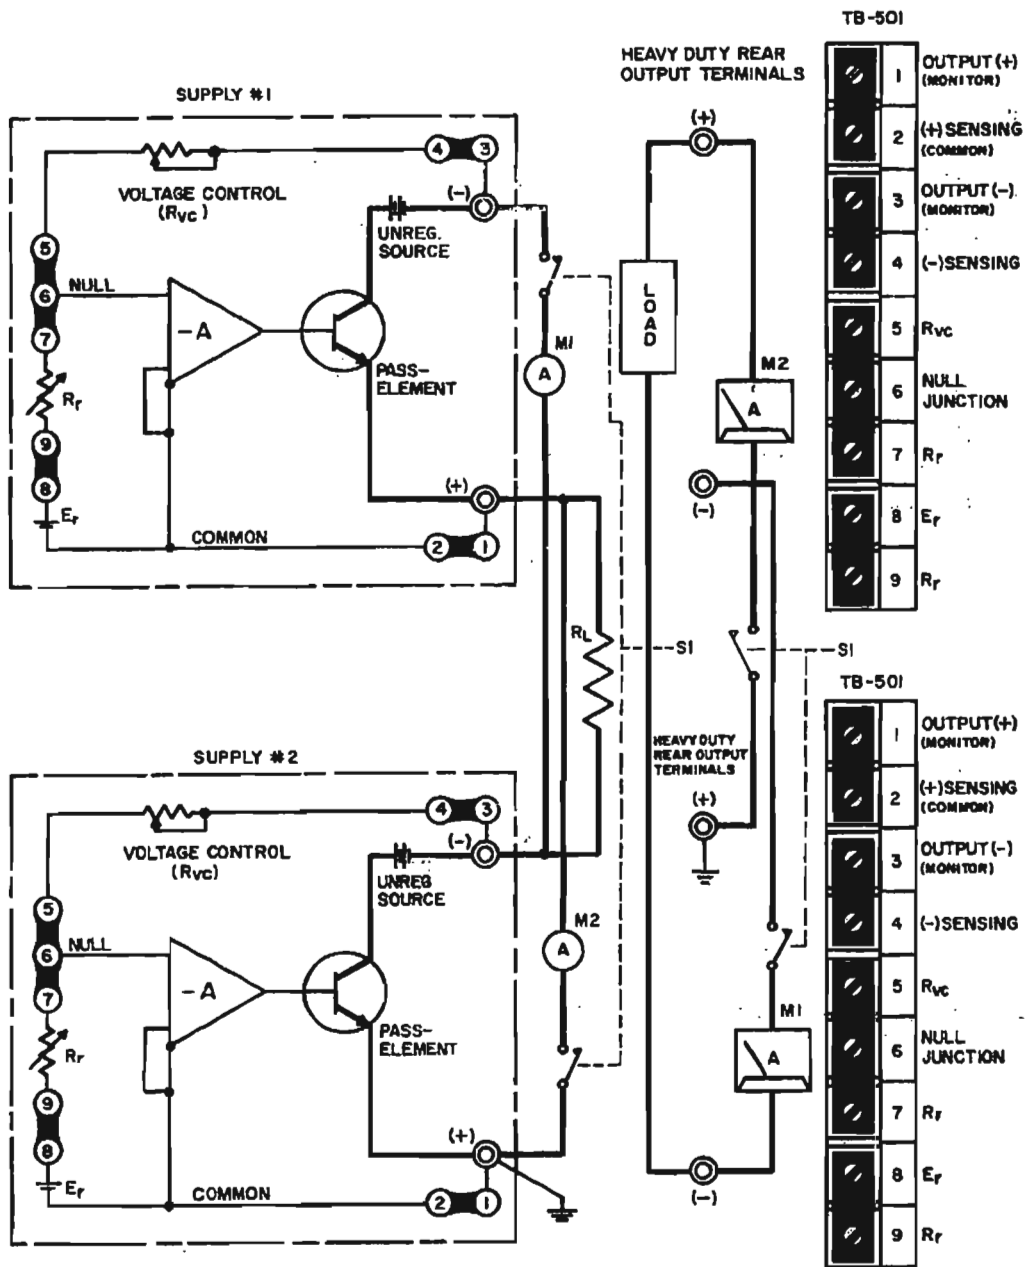

FIG. 3-13 BASIC PARALLEL CONNECTION OF TWO KEPCO POWER SUPPLIES
3-44 PROCEDURE FOR AUTOMATIC PARALLEL CONNECTION (See FIG. 3-13)
- 4) Make all load interconnections as shown in the connection diagram (refer to FIG. 3-13) *except the error sensing connections* (these connections may be added later if needed).